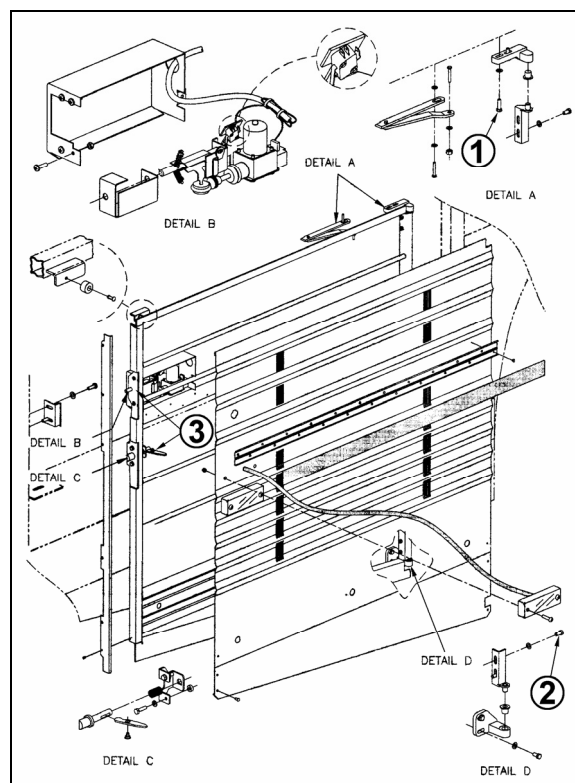

FIGURE 59: ENGINE COMPARTMENT R.H. SIDE DOOR¹⁸⁶³⁵
1. Loosen the bolts, (1, Fig. 59) holding the hinge to the vehicle structure to shift the door "IN or OUT" and "UP or DOWN".
2. Loosening the bolts (2, Fig. 59) allows the door to be shifted "LEFT or RIGHT" and "UP or DOWN".
To adjust the latch mechanism (3, Fig. 59) and the striker pin: